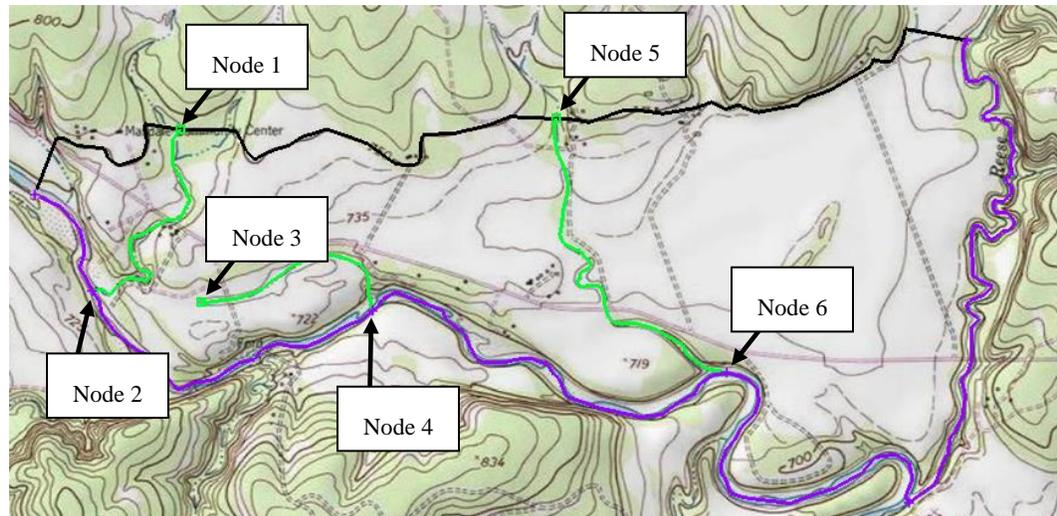

Figure 6 Locations of the drain nodes
9. Using the **Select Points/Nodes**  tool, double-click on Node 1 as shown in Figure 6 to bring up the *Attribute Table* dialog. Notice that this node has two properties associated with it since it is attached to two arcs of different types.
Repeat steps 9–11 to assign the drain elevations from the list below to the rest of the nodes shown in Figure 6. Be sure to change only value in the *Bot. elev.* column on the *drain* row. Do not change anything on the other rows.